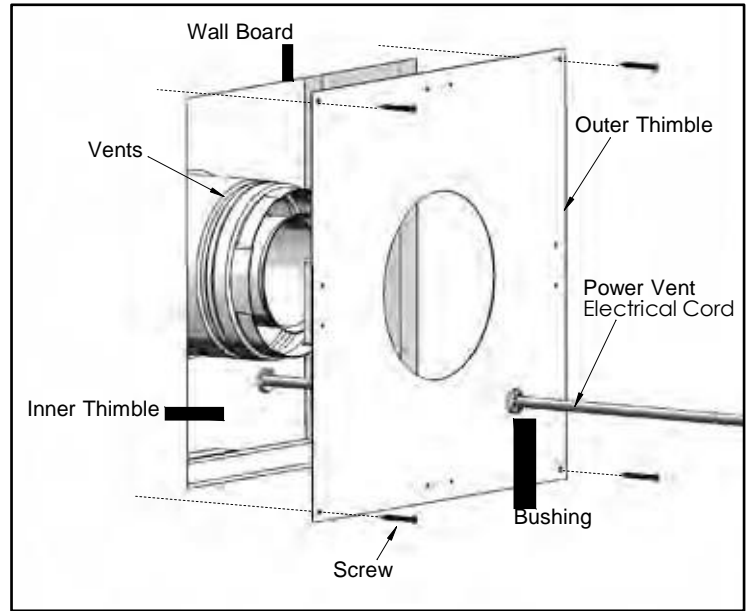

Figure 7: Install the outer thimble.
6. Insert the rest of the power vent electrical cord through the bushing on the right bottom of the outer thimble, refer to Figure 7